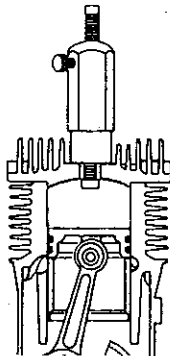

Figure 23
- G. If tool number 670124 is used, tighten the set screw to lock the plunger, then back off TDC opposite normal rotation (turn counter-clockwise). If the rule and straight edge or dial indicator is used, leave the piston at TDC. (See Figure 23.)